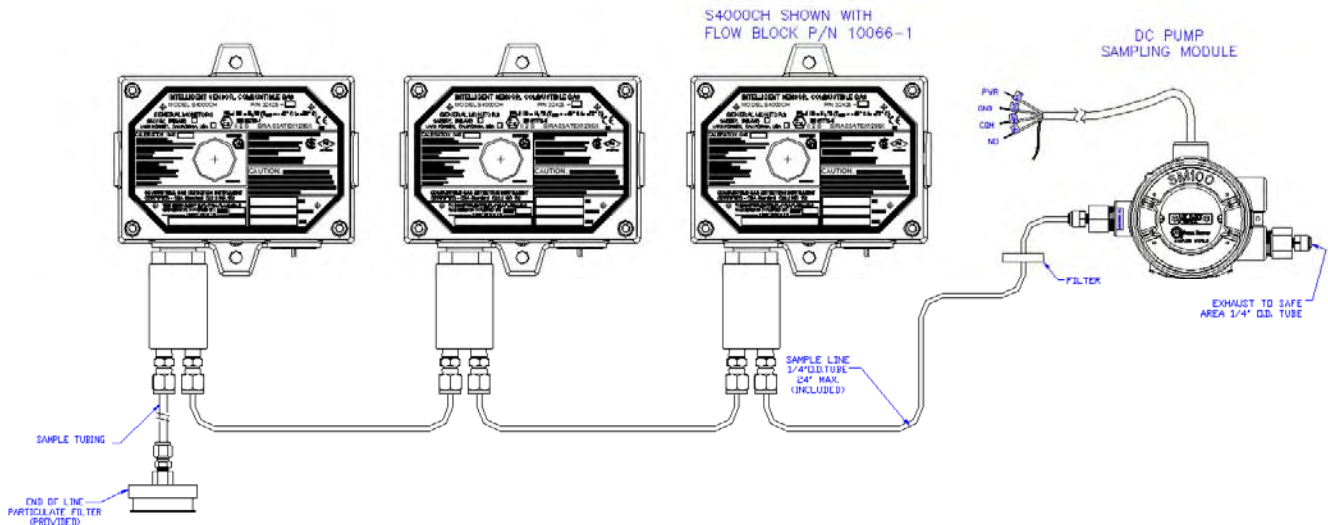

Figure 2-1 Three General Monitors S4000CH Combustible Gas Detectors and Sampling Module
- If installing additional General Monitors Gas Detectors, install tubing between units as shown in FIGURES 2-1 through 2-3. Use tubing compatible with the gas being sampled.
- F. Connect the conductors to the wiring terminal strip noting the identity of the wires. See FIGURE 2-1 and TABLE 2-2.
1. Check wiring connections; see FIGURE 2-1 and TABLE 2-2.